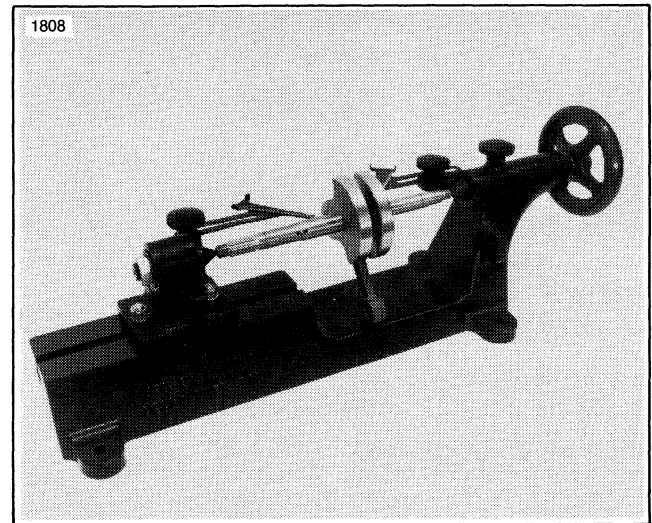

Figure 5-29. Checking Crankshaft Runout
5. Using a truing device, lathe centers, vee blocks and dial indicators (not shown) check shaft run-out as shown in Figure 5-29.